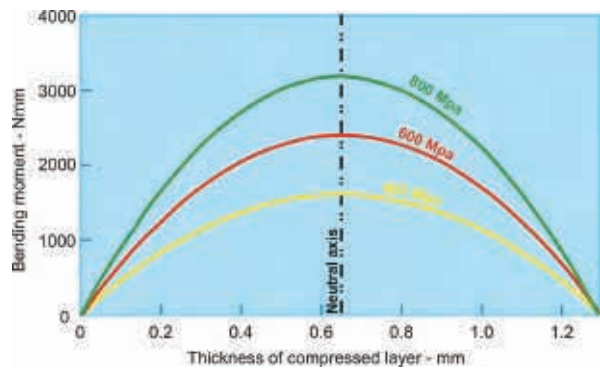

Fig.8 Effects of depth and stress in compressed layer on bending moment.
The width, **w**, of Almen strips is virtually constant so that for a given thickness, **t**, of Almen strip there are only two variables in equation (8). Fig.8 shows predicted variations of bending moment with layer depth and stress level for an Almen A strip (width 18.95mm and thickness 1.295mm). The bending moment reaches a maximum when the compressed layer depth is half of the strip thickness. Thereafter the bending moment falls until it reaches zero of the compressed layer occupies the whole of the strip section. It will be shown later that specified restrictions on peening intensity mean that, in practice, the compressed layer would have a maximum thickness of less than 0.2mm. The bending moment is directly proportional to the average level of compressive stress, **σ**.